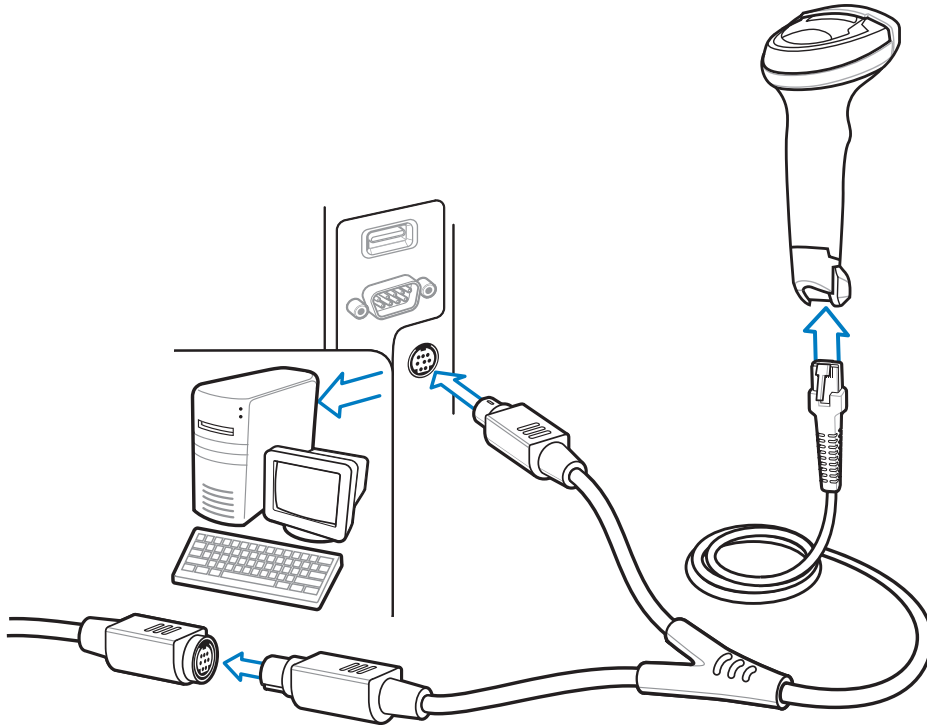

Figure 6-1 Keyboard Wedge Connection with Y-cable
- ✓ **NOTE** Interface cables vary depending on configuration. The connectors illustrated in Figure 6-1 are examples only. The connectors may be different than those illustrated, but the steps to connect the scanner remain the same.